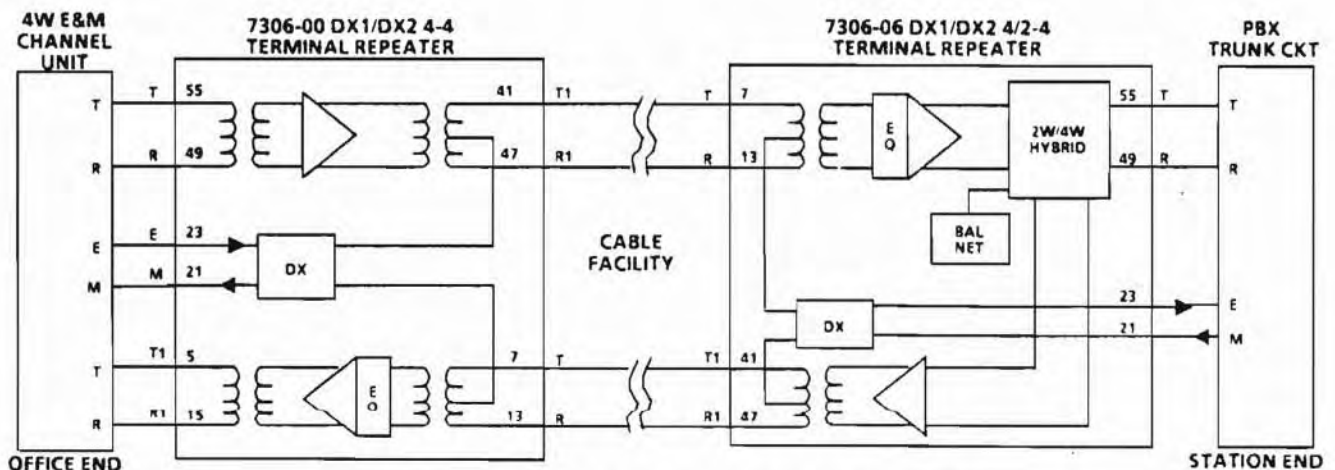

Figure 2. Typical 4W To 2W Application For 7306-06
2.02 The 7306-06 is typically used in station applications. Figure 2 illustrates a typical application using a 7306-06 module to interface a 4-wire PBX trunk to a 4-wire E&M channel unit via cable facilities.